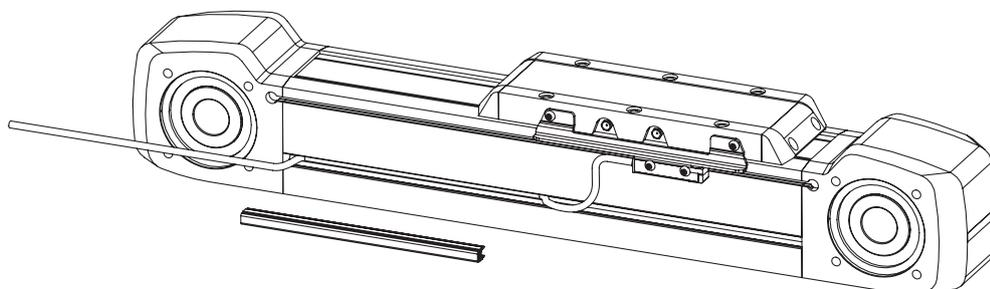

Fig. 6.42 Mounting the limit switch: Routing the cables
- ▶ Route the limit switch cable into the lower groove (see Fig. 6.42). There the cable is protected under the groove cover. The groove cover is available separately, see Section 12.4 on Page 161.